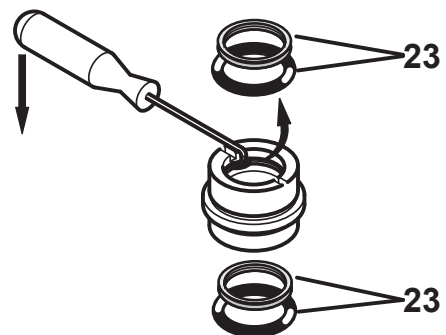

Fig. 9.12
9.3.10) Using the dedicated tool, remove the seal and the O-ring pos.23 from their seats (Fig.9.12).